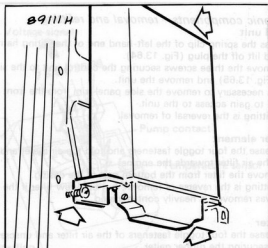

Fig. 13.65 Control unit fixing screws (arrowed) (Sec 8)
- 122 Remove the three screws securing the control unit to the side panel (Fig. 13.65) and remove the unit.